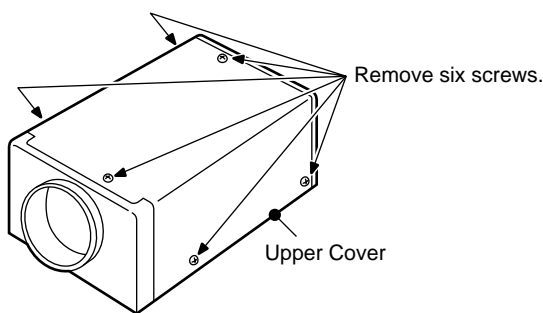

Fig. 2-1
- Referring to Fig. 2-1, remove six screws that secure the Upper Cover and remove the Upper Cover.